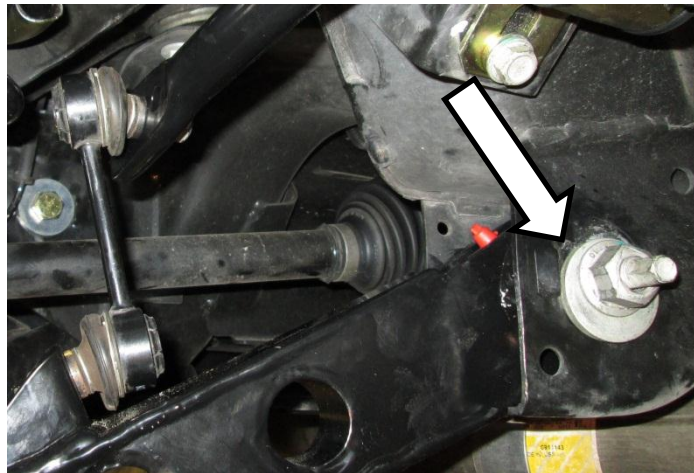

Figure 1
6. Place an alignment mark on the inner control arm pivot eccentric washer and differential cradle. Remove the inner pivot bolt, noting the direction it is installed. Remove the lower control arm from the car. See Figure 1